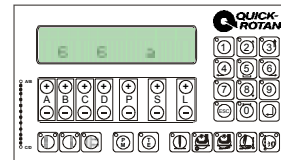

Fig. 7.4
**Control panel EcoTop (Fig.7.4 - optional)**